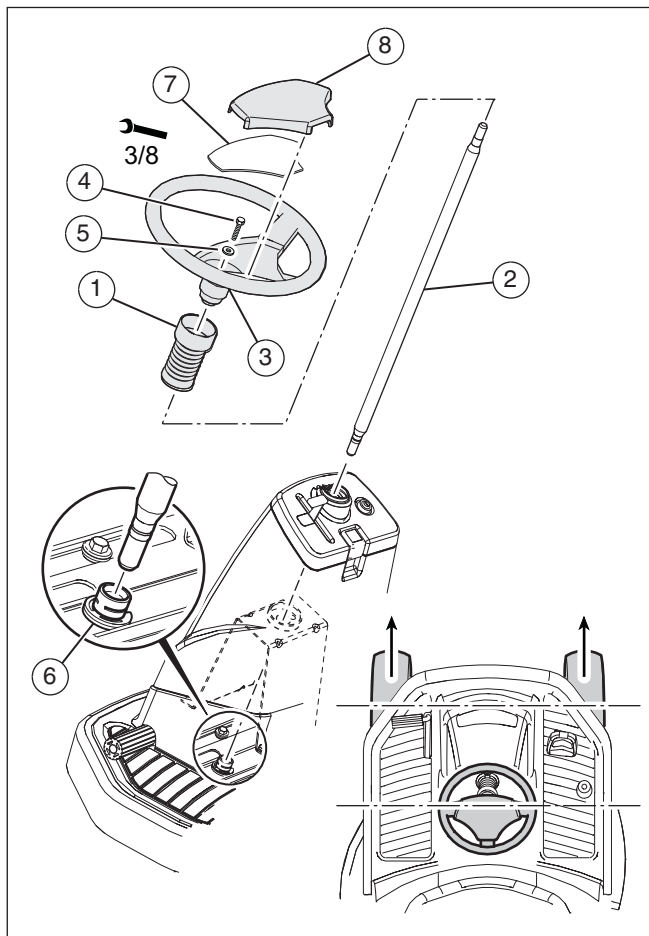

Figure 3
1. Make sure the front wheels point forward as shown in **Figure 3**.
2. Slide the bellows (1, **Figure 3**) over the console.
3. Slide the steering post (2) into the console.